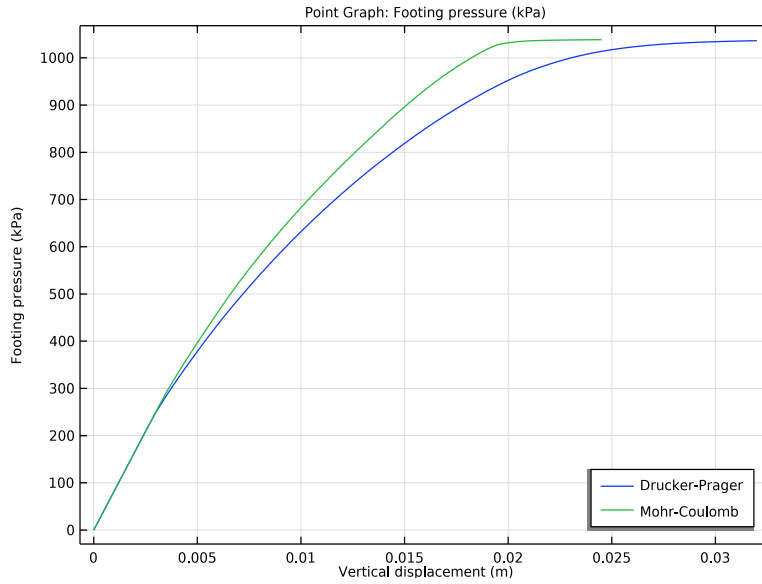
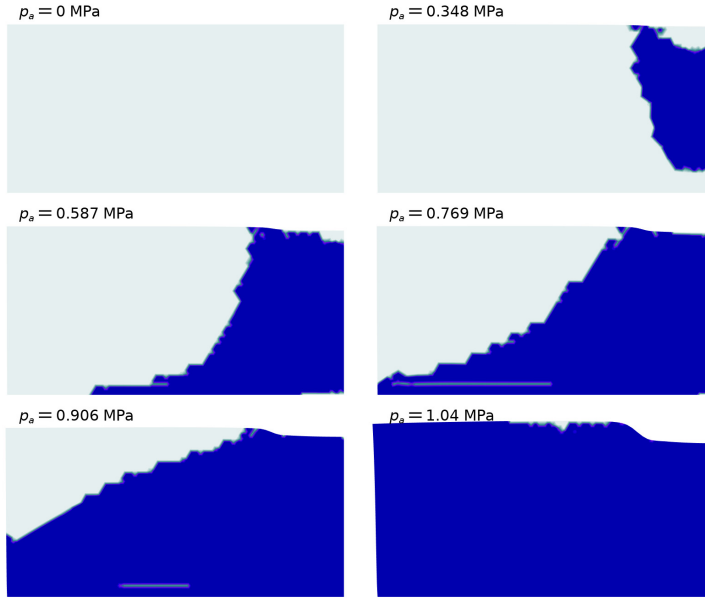

Figure 2: Footing pressure versus vertical displacement for the Mohr–Coulomb and Drucker–Prager material models.
Figure 3: Evolution of the equivalent plastic strain on the clay layer during the parametric loading. Dark blue regions indicate plastification.
- The stratum is subjected to a footing that is considered to be flexible and smooth. The width of the strip footing is 3.14 m, see Figure 2. Gradually increase the footing pressure until the clay layer reaches the collapse load.
The load-displacement curves for both the Mohr–Coulomb and the Drucker–Prager criteria are plotted in Figure 2. The relation between the applied footing pressure and the centerline displacement (directly beneath the center of the footing) in the y direction are shown. The lines show the load-displacement curves for the Mohr–Coulomb and Drucker–Prager criteria. The curves are identical up to 300 kPa because the whole domain is still within the elastic region. From that point when the pressure increases, the behavior diverges. Both curves reach the collapse load at approximately 1.1 MPa. The development of plastic strains in the soil at different stages of loading is shown in Figure 3.